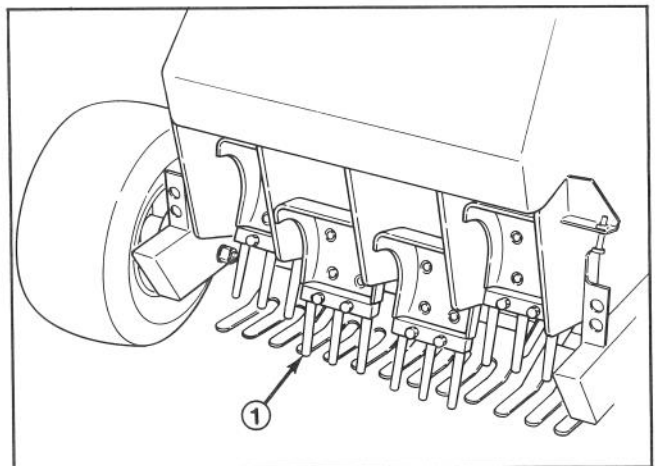

Figure 18
5. Tighten mounting nuts securely (Fig. 18).